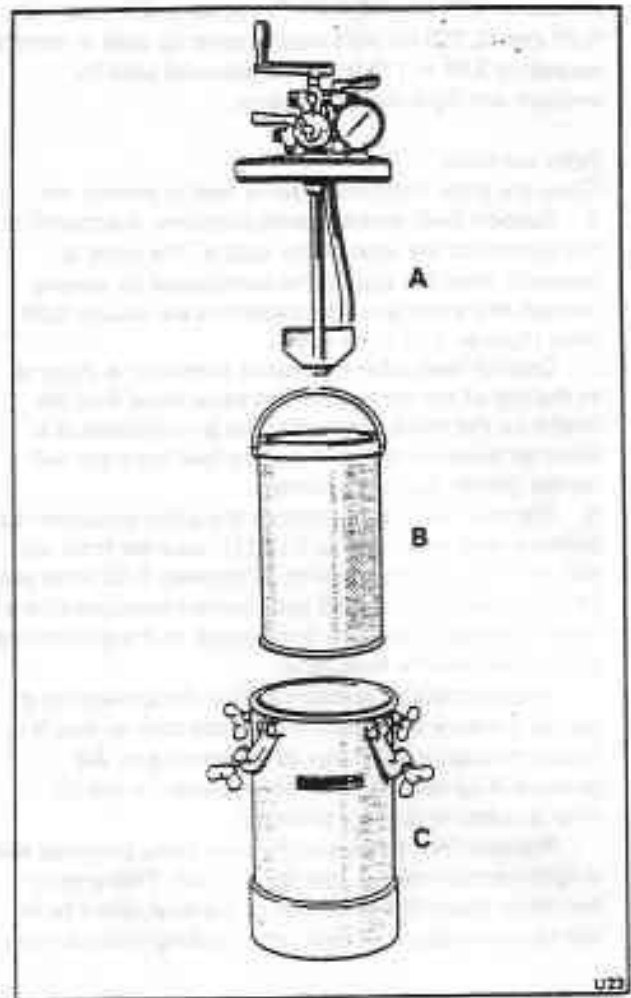
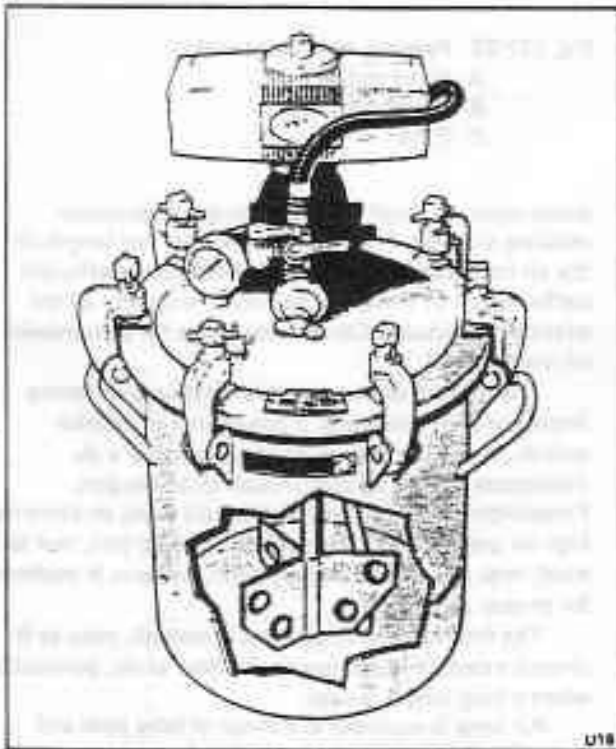

Fig. S17-22 Pressure feed paint tank
Fig. S17-23 Pressure feed paint tank with an air motor driven agitator
3. Pressure feed. In this system the paint container is a pressure feed tank (see fig. S17-22), separate from the gun, and may have a capacity of between 9,09 litres and 181,83 litres (2 gal and 40 gal). Certain containers have a larger capacity. The paint is conveyed to the gun through a length of flexible fluid hose.
Pressure feed tanks are, in many cases, provided with a light insert container (see fig. S17-22). This greatly facilitates cleaning and change of material; some tanks can be mounted on a castor base, making removal from
place to place an easy matter. The tanks are strongly constructed to avoid any risk of distortion under pressure and are usually galvanized inside and outside. The lid is secured by clamps and is fitted with a gasket to prevent air leakage. There is a safety valve, an air release valve and at least one air and one fluid draw-off cock. On the larger size tanks there are two or three extra air and fluid cocks, so that the tank can be used by more than one operator. Provision is made for a hand operated agitator to keep the material properly mixed (see fig. S17-22) and for large capacity tanks it is advisable to have an agitator driven by a compressed air motor (see fig. S17-23).